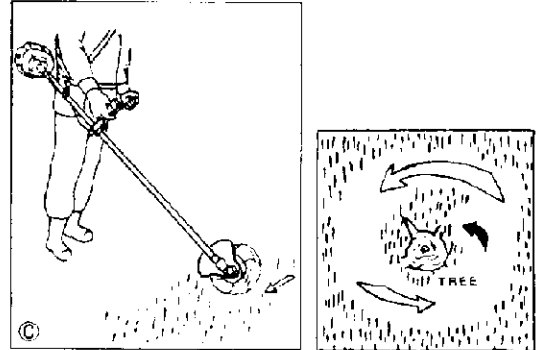

Fig. 8
3. In flower beds, always remember that the nylon line will cut in a complete circle to avoid cutting flowers instead of weeds. See Fig. 8